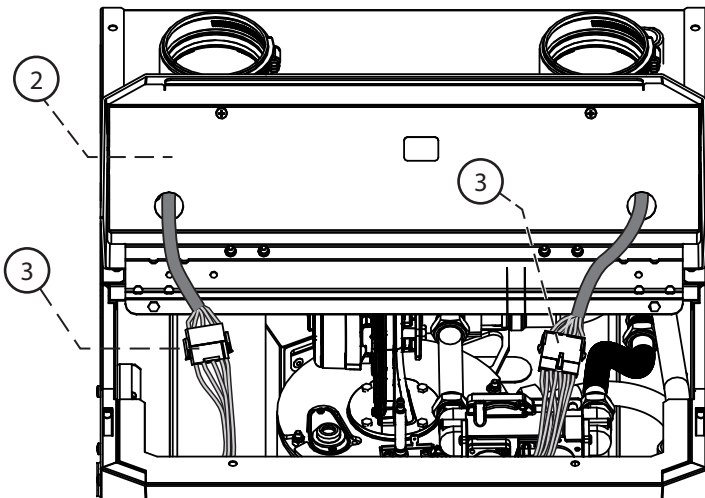

Fig. 9: High and Low Voltage Connectors
3. Connect the high and low voltage connectors. See Figure 9.